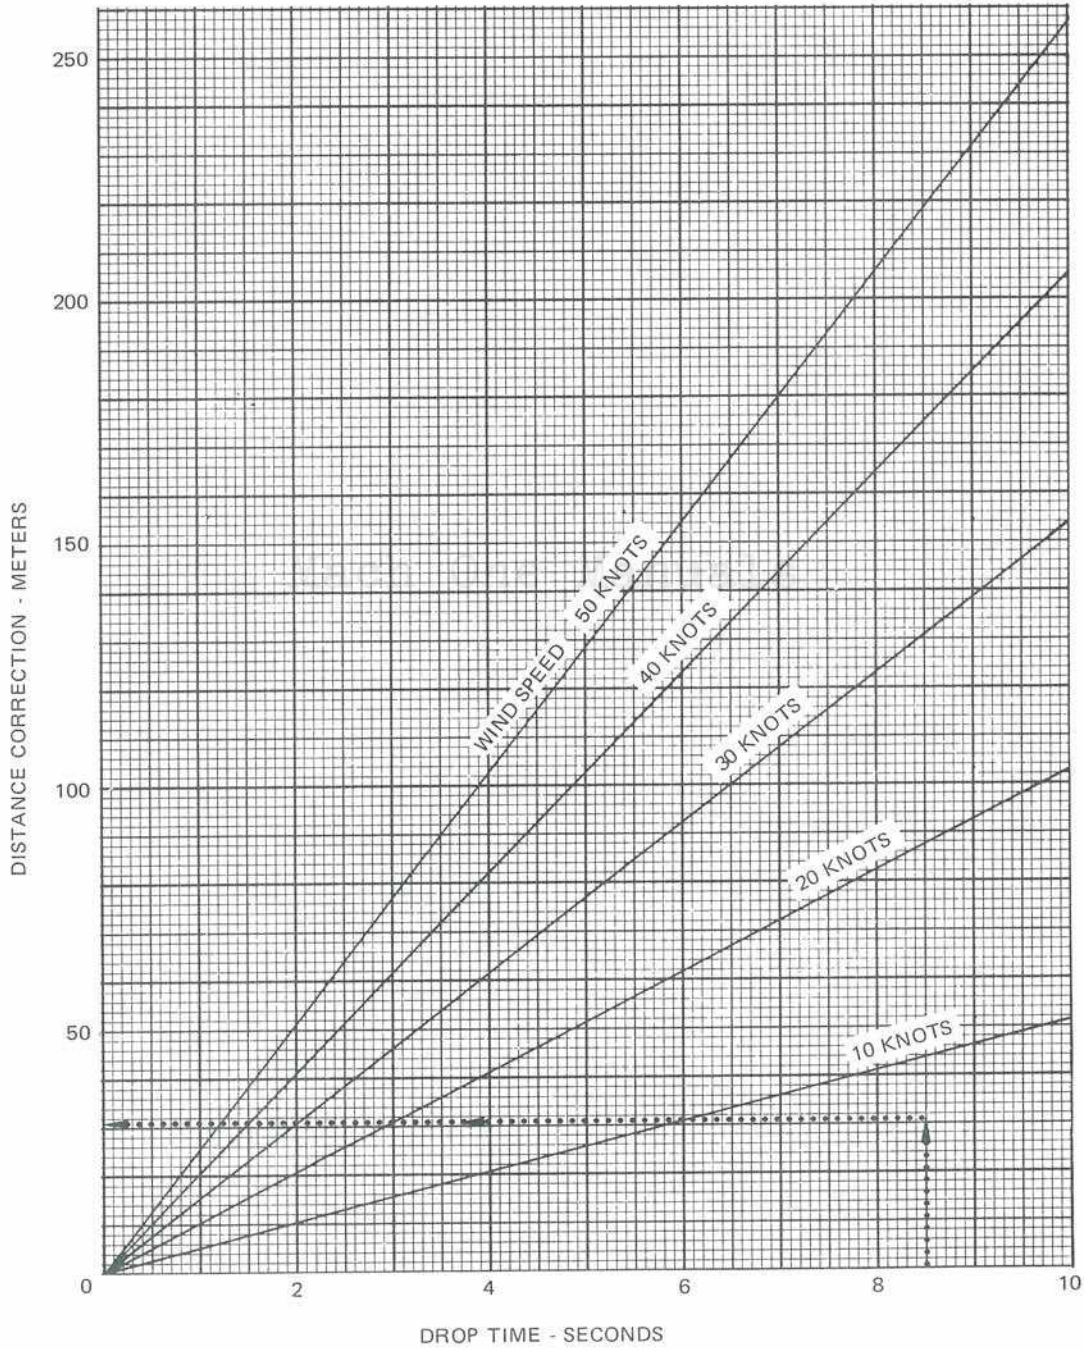

Figure 7-5
The Wind Correction Chart, figure 7-5, depicts the distance correction required to lead or lag the target in the manual mode or whenever the wind correction is not used in the FCC.
a. Enter figure 7-5 at the bottom with the drop time, 8.5 seconds, and proceed vertically upward to the wind correction line 7 knots, interpolate visually.